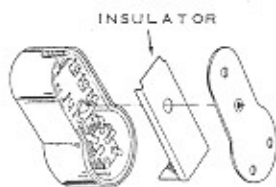

Figure 5. Terminal Panel Insulator.
12. Insert Terminal Panel Insulator, as shown in Figure 5. If the control box is to be permanently attached, fasten the bottom plate to a shelf or counter with No. 6 Hex Head Screws. Screw the control box to the plate with the 6-32 x 1-3/16 screw provided.